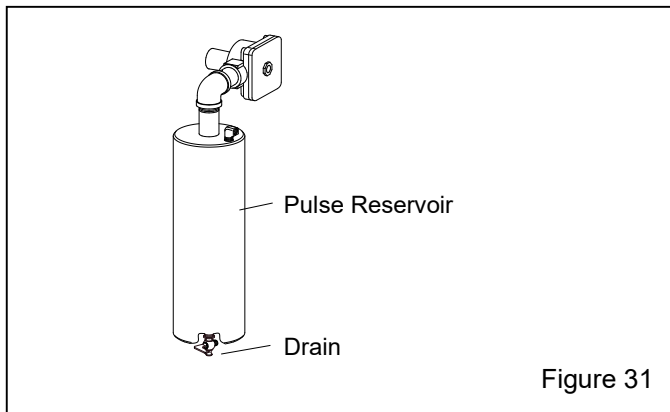

Figure 31
6.3.3 Drain pulse reservoir – Figure 31: At the end of the day, open the petcock to drain water from the reservoir and bleed air from the supply line. Close the petcock when the line is bled.